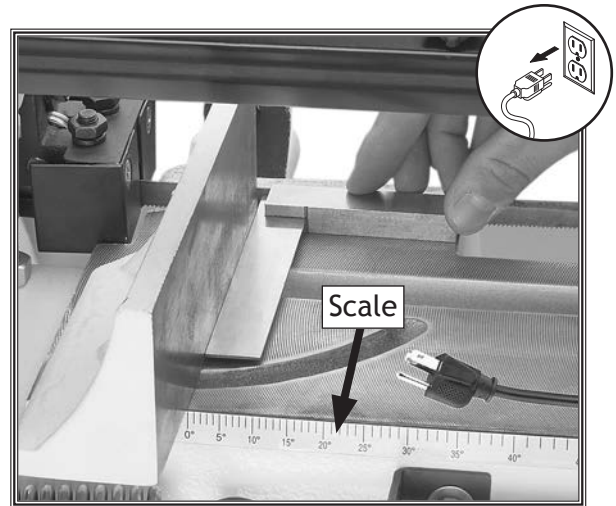

Figure 29. Using a machinist's square to adjust the vise perpendicular to the blade.
2. Check the vise with a machinist's square to make sure the vise is perpendicular to the blade and reads 0° on the scale as shown in **Figure 29**.